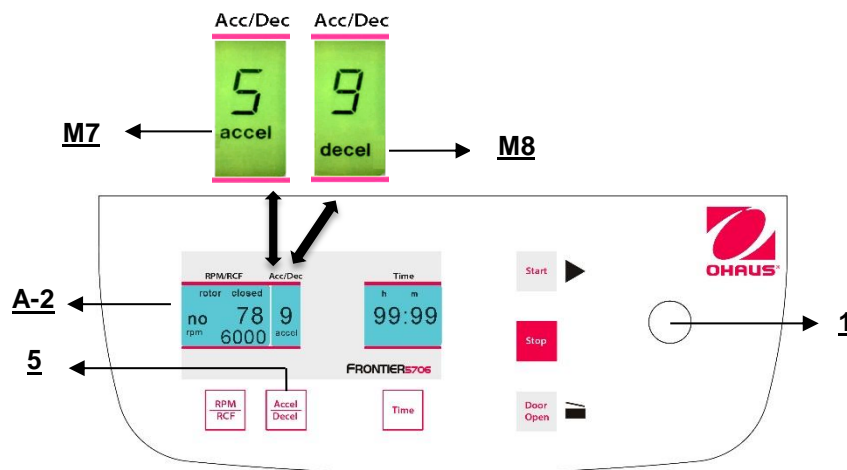

Figure. 21
This function is activated through the key "Accel/Decel" (5) (refer to figure 21).